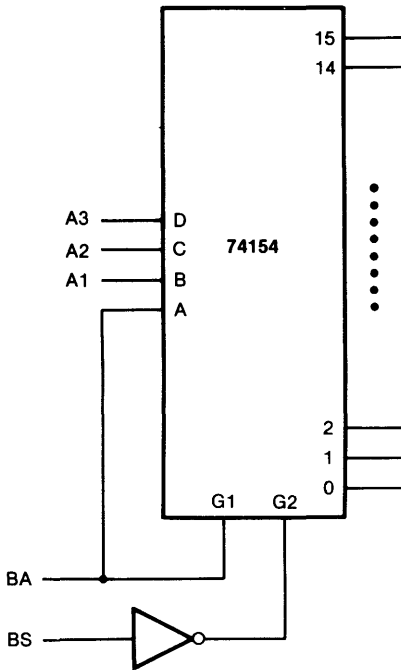

Fig. 6-3. IACK decoding circuit.
Since each interrupt has a unique vector address assignment, one of fourteen addresses (FFF2-FFFF) will be placed on the address bus when the vector is fetched. Thus the BA/BS logic will indicate that an interrupt has been accepted and address lines A1-A3 will indicate exactly which interrupt vector is being fetched. The simple 74154 decoding circuit shown in Fig. 6-3 could be used for this
6. The bus available (BA) line is at a _____ level when the MPU address and data lines are in their high-impedance state.
9. Which 74154 output line would be active in Fig. 6-3 for the conditions given in Question 8?